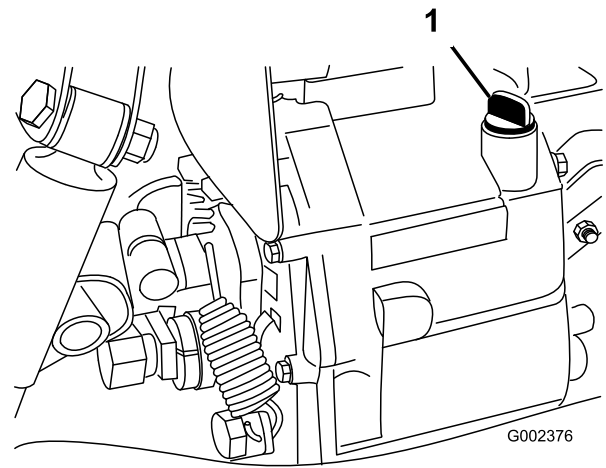

Figure 69
4. Clean the area around the dipstick (Figure 69).